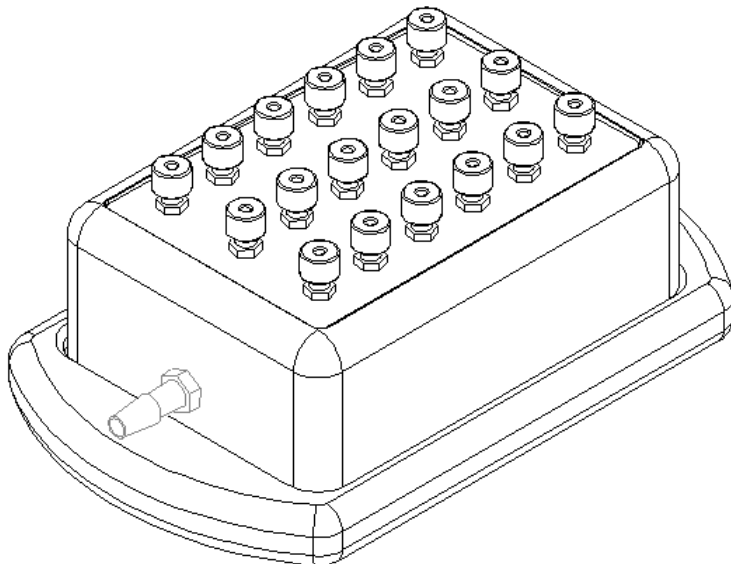

Fig. 1. Aurum vacuum manifold
- Bio-Rad Aurum vacuum manifold with vacuum regulator and column adaptor plate (Cat. #732-6470), or other vacuum manifold with luer fittings (Figure 1).